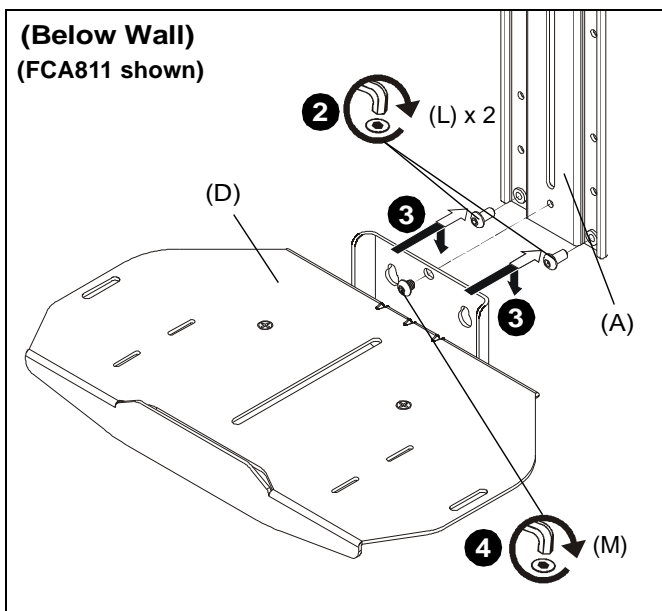
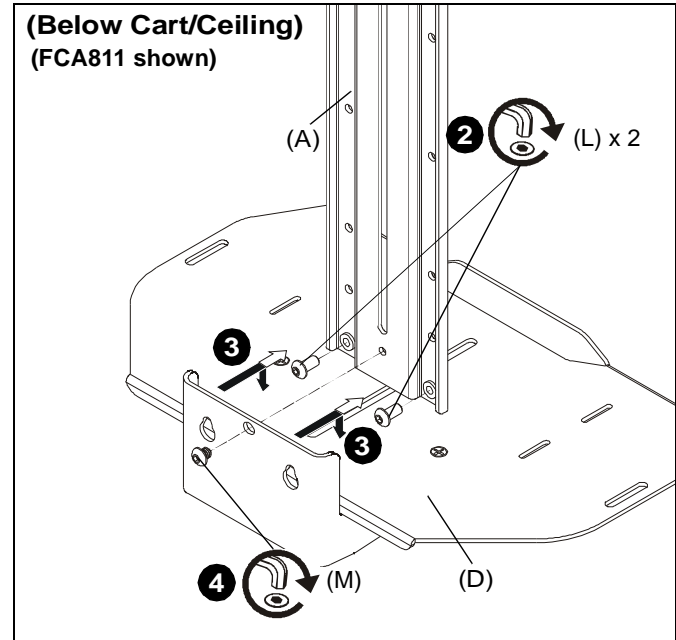

Figure 2
Figure 3
2. Install two 1/4-20 x 1/2" button head cap screws (L) into lowest holes on upright bracket (A). (See Figure 2) or (See Figure 3)
3. Hang shelf support (D) onto two screws installed in Step 2. (See Figure 2) or (See Figure 3)
4. Use one 1/4-20 x 1/4" button head cap screw (M) to secure upright bracket (A) to shelf support (D). (See Figure 2) or (See Figure 3)
5. Tighten all three screws to ensure upright bracket (A) is securely attached to shelf support (D).